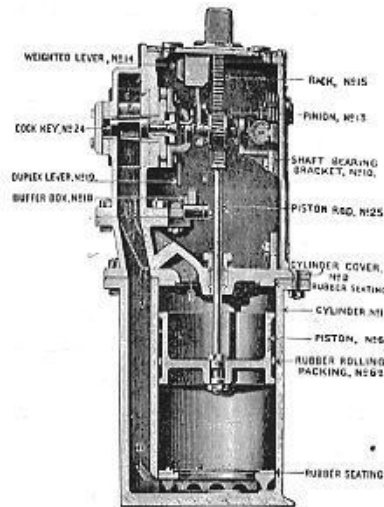
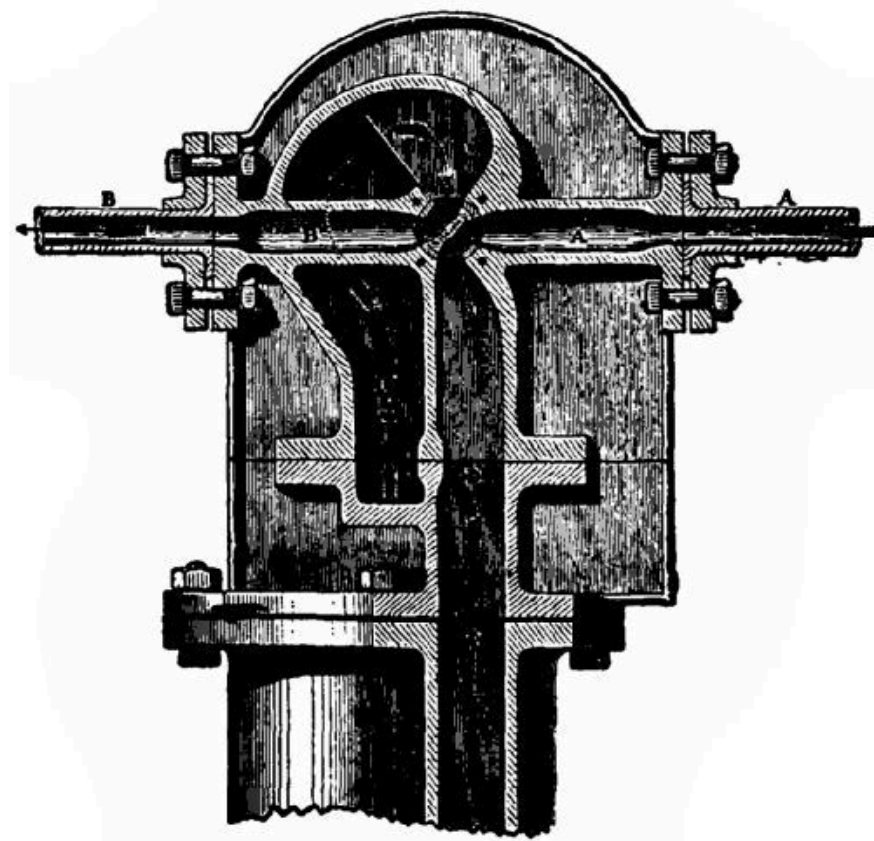

FIG. 183.
FIG. 184.
Some consumers pay a sum quarterly for the privilege of a water supply, and the water company allows them to use as much as they require. Others, however, prefer to pay a fixed amount for every thousand gallons used. In such cases, a water-meter is required to record the consumption. We append a sectional diagram of Kennedy's patent water-meter (Fig. 183), very widely used. At the bottom is the measuring cylinder, fitted with a piston, (6), which is made to move perfectly water-tight and free from friction by means of a cylindrical ring of india-rubber, rolling between the body of the piston and the internal surface of the cylinder. The piston rod (25), after passing through a stuffing-box in the cylinder cover, is attached to a rack, (15), which gears with a cog, (13), fixed on a shaft. As the piston moves up and down, this cog is turned first in one direction, then in the other. To this shaft is connected the index mechanism (to the right). The cock-key (24) is so constructed that it can put either end of the measuring cylinder in communication with the supply or delivery pipes, if given a quarter turn (see Fig. 184). The weighted lever (14) moves loosely on the pinion shaft through part of a circle. From the pinion project two arms, one on each side of the lever. When the lever has been lifted by one of these past the vertical position, it falls by its own weight on to a buffer-box rest, (18). In doing so, it strikes a projection on the duplex lever (19), which is joined to the cock-key, and gives the latter a quarter turn.
In order to follow the working of the meter, we must keep an eye on Figs. 183 and 184 simultaneously. Water is entering from A, the supply pipe. It flows through the cock downwards through channel D into the lower half of the cylinder. The piston rises, driving out the water above it through C to the delivery pipe B. Just as the piston completes its stroke the weight, raised by the rack and pinion, topples over, and strikes the key-arm, which it sends down till stopped by the buffer-box. The tap is then at right
angles to the position shown in Fig. 184, and water is directed from A down c into the top of the cylinder, forcing the piston down, while the water admitted below during the last stroke is forced up the passage D, and out by the outlet B. Before the piston has arrived at the bottom of the cylinder, the lifter will have lifted the weighted lever from the buffer-box, and raised it to a vertical position; from there it will have fallen on the right-hand key-arm, and have brought the cock-key to its former position, ready to begin another upward stroke.